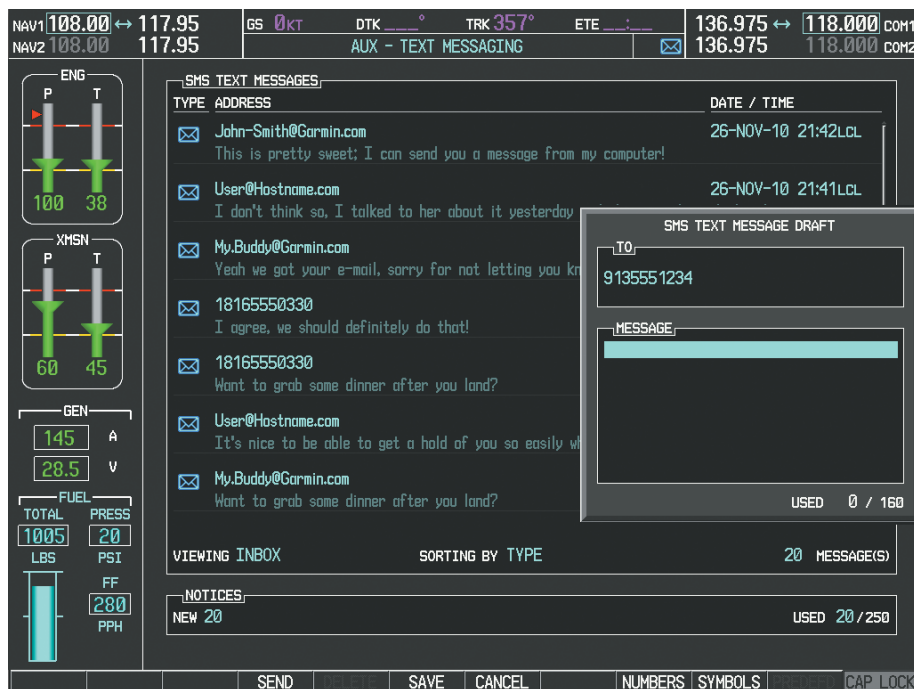

Figure 8-90 Composing a New Text Message
- 2) The TEXT MESSAGE DRAFT Window is now displayed with the cursor in the 'TO' field. Enter 00 + country code + area code + phone number when sending to a text capable telephone. An email address may also be entered. Entry can be accomplished through the alphanumeric keys on the MFD Controller, or combination of the **FMS** Knob on the controller and softkeys on the MFD. The **FMS** Knob is used to enter letters and numbers, or numbers can be entered from the MFD by selecting the **NUMBERS** Softkey. Select the **CAP LOCK** Softkey to create upper and lower case alpha characters. Special characters can be accessed by selecting the **SYMBOLS** Softkey. See Figure 8-90.